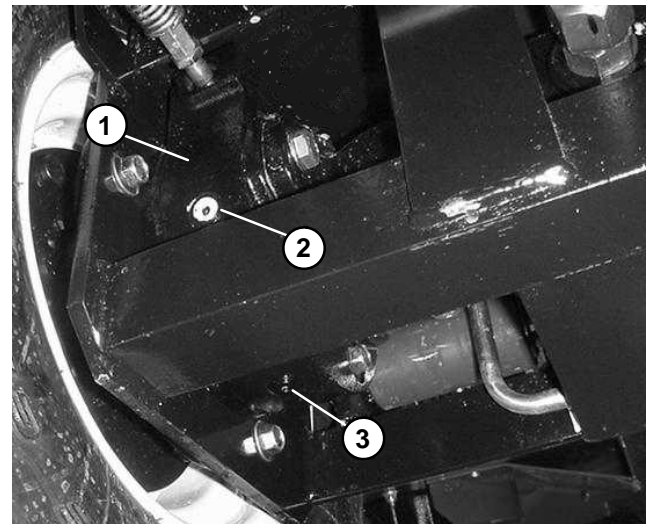

Figure 6
6. Make sure drain plug is installed in bottom of brake assembly (Fig. 6). Fill planetary wheel drive/brake assembly with SAE 85W–140 gear lube (see Operator's Manual). Capacity is approximately 16 oz. (.47 l) per wheel.